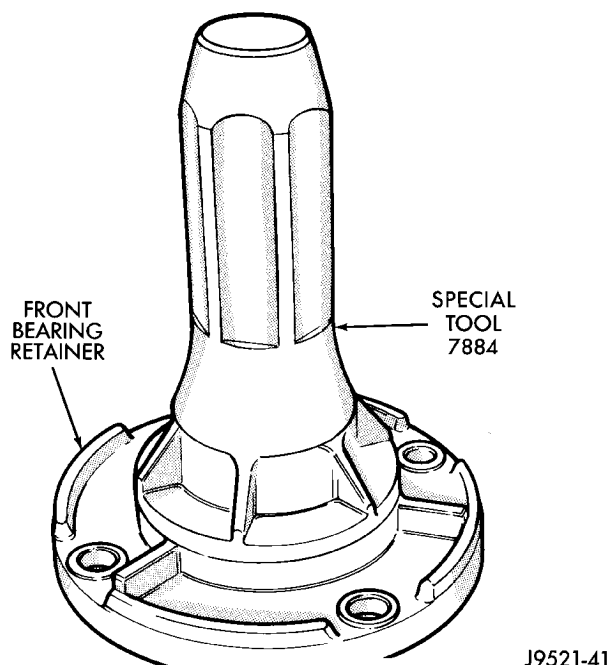

Fig. 56 Front Bearing Retainer Seal Installation
(11) Install new seal in front bearing retainer with Installer 7884 (Fig. 56).